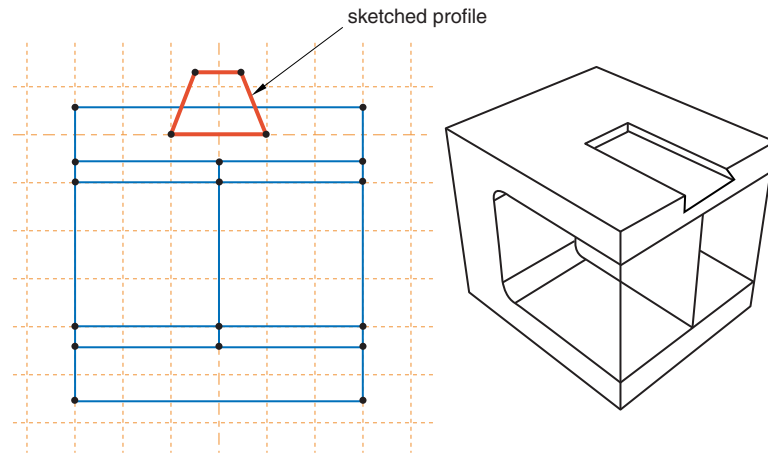

Figure 11-5 A cut feature.
4. A blind cut is cut into the top of the clamp. The user sketched a two-dimensional profile, and the profile was extruded into the clamp through a specified distance, as shown in Figure 11-5. The sketch and the depth of the slot are the modifiable parameters that define the blind cut feature.